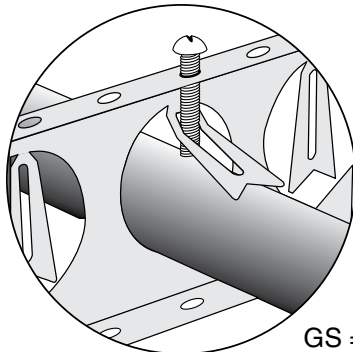

Figure 2
- 2) Bend tabs back and slide conduit thru openings. For greater holding power use 1/4" x 20 bolts thru threaded top holes to lock rods on conduit or screw down directly onto conduit if tabs are missing *Figure 2*.